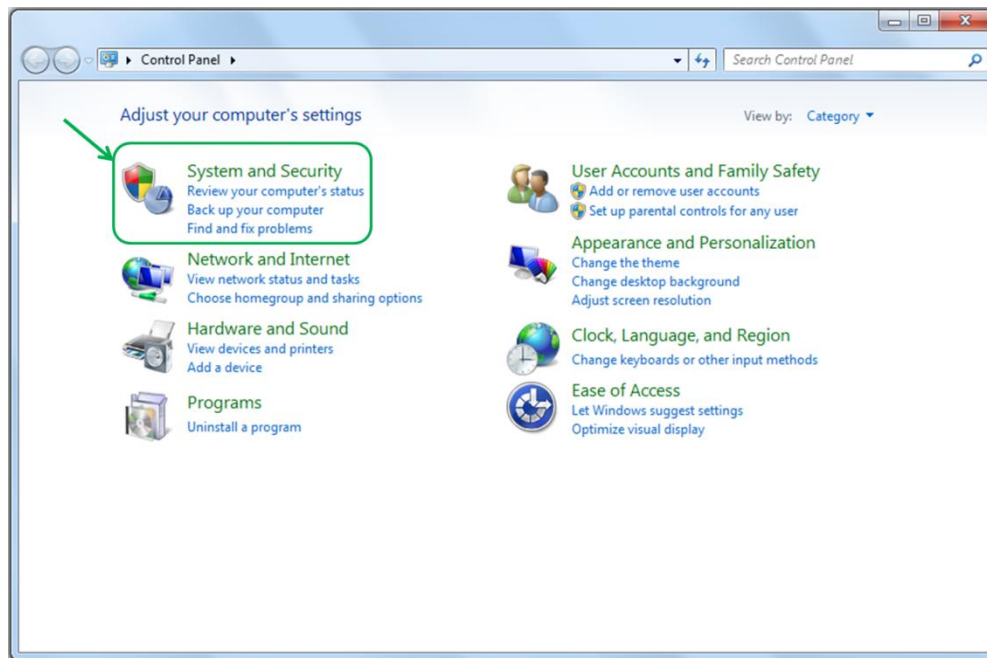

Fig. 18 Control panel
- Press Start and Select **Control Panels** (Fig. 18)